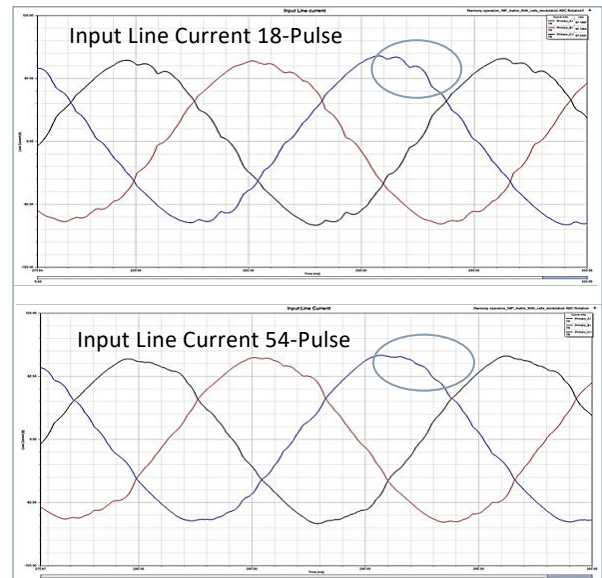

Figure 21: Input line current waveforms
IEEE 519-2014 defines levels for Total Current Demand Distortion (TDD(I)). Most manufacturers measure and show cumulative amount of harmonic distortion or Total Harmonic Current Distortion (THD(I)). IEEE requires distortion measured at 100 % load, at this point THD(I) equals to TDD(I). The improvement in current waveforms is shown in Figure 21.